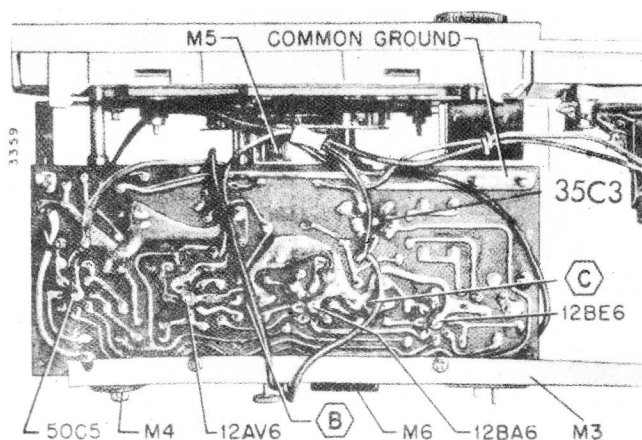

Figure 2. Bottom View of Chassis. Location of tubes and alignment points shown.
- Use an isolation transformer if available; otherwise, connect a .1 mfd. capacitor in series with low side of signal generator and connect to common ground (see figure 2).
*Adjustments "B" and "C" made from underside of chassis; see figure 2.